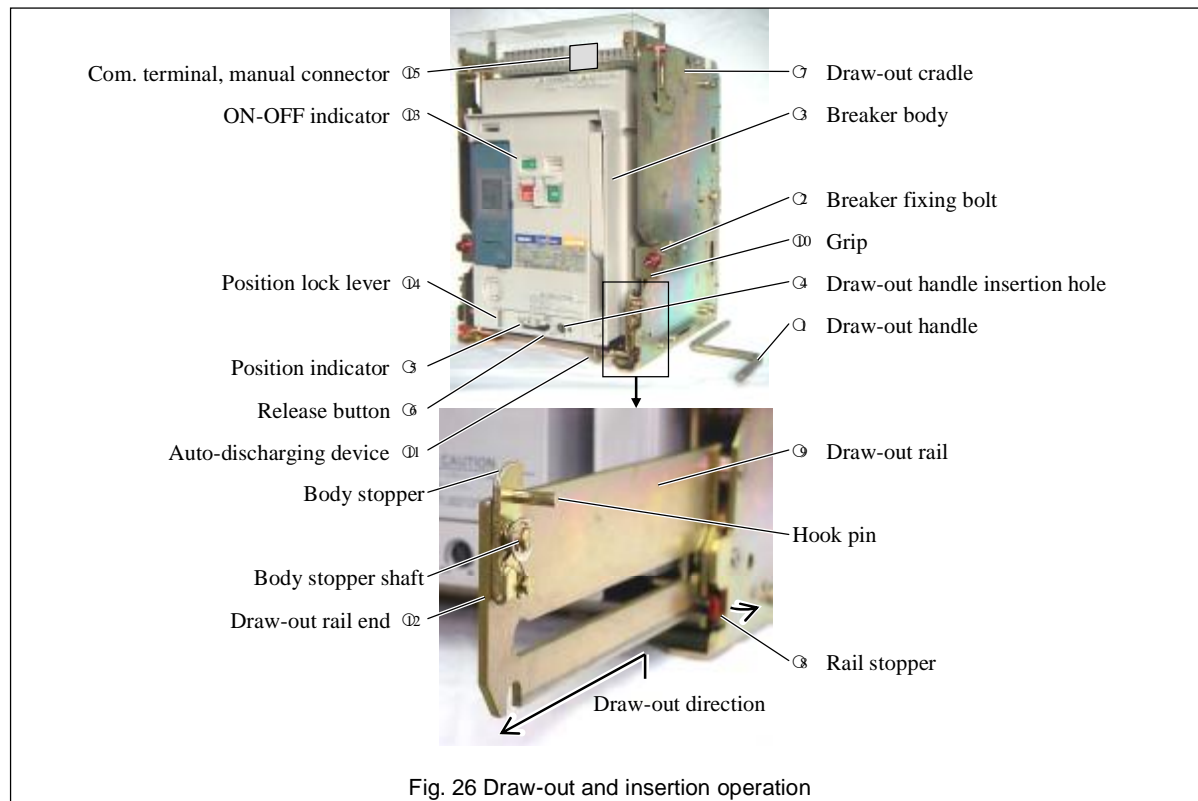

Fig. 26 Draw-out and insertion operation
- 1) Open the ACB. (If the ACB remains closed, the draw-out handle (Fig. 26 ㉑) cannot be inserted.)
- 2) Loosen the breaker fixing bolts (Fig. 26 ㉒), if used, to unlock the breaker body (Fig. 26 ㉓).
- 3) Unlock the position lock lever (Fig. 26 ㉔) if locked. See section 4-5.
- 4) Insert the draw-out handle into the draw-out handle insertion hole (Fig. 26 ㉕) and slowly turn counterclockwise until the position indicator (Fig. 26 ㉖) shows "TEST".
- 1) Open the ACB. (If the ACB remains closed, the draw-out handle (Fig. 26 ㉑) cannot be inserted).
- 2) Press the release button (Fig. 26 ㉒). The release button will be locked depressed.
- 3) Unlock the position lock lever (Fig. 26 ㉓) if locked. See section 4-5.
- 4) Insert the draw-out handle into the draw-out handle insertion hole (Fig. 26 ㉑) and slowly turn counterclockwise until the position indicator (Fig. 26 ㉒) shows “ISOLATED” and a freewheeling sound is heard. Turning the draw-out handle will unlock the release button.
- 1) Make sure the draw-out cradle (Fig. 26 ㉔) is secured with mounting screws.
- 2) Unlock the position lock lever (Fig. 26 ㉓) if locked. See section 4-5.
- 3) Push the rail stoppers (Fig. 26 ㉕) outward on both sides of the draw-out cradle to unlock the draw-out rail (Fig. 26 ㉖), and then uphold and pull out the rail until it stops. The draw-out rail will be locked again by the stoppers. (The breaker body cannot be drawn out unless the rail is locked).
- 4) Holding both the grips (Fig. 26 ㉗), draw out the breaker body until it stops.
- ⓘ If the ACB is equipped with the communication terminal block, pull out the hand connector (Fig. 26 ㉘) from the communication terminal block while drawing out the breaker body. Make sure the hand connector and control wire of the ACB are not snagged when drawing out the breaker body again.
- ⓘ If the ACB is equipped with an optional auto-discharging device (Fig. 26 ㉙), the closing springs of the ACB will be automatically discharged with a mechanical sound. This sound does not mean a malfunction.
- 5) Use an optional lifter or lifting plate to transfer the breaker body (Fig. 26 ㉚) to a safe place. Refer to section 2-1-2.
- 2) Push the rail stoppers (Fig. 26 ㉕) outward on both sides of the draw-out cradle to unlock the draw-out rail (Fig. 26 ㉖), and then uphold and pull out the rail until it stops. The draw-out rail will be locked again by the stoppers. (The breaker body (Fig. 26 ㉚) cannot be inserted unless the rail is locked).
- 4) Make sure the breaker fixing bolts (Fig. 26 ㉒), if fitted, are loosened and not arrest the breaker body.
- 5) Make sure the hand connector (Fig. 26 ㉓) of the communication terminal block, if fitted, is so positioned that it does not get caught between the breaker body and the draw-out cradle.
- 6) If the ACB has the breaker fixing bolts (Fig. 26 ㉒), make sure the bolts are loosened and, holding both the grips (Fig. 26 ㉔), firmly push the breaker body into the draw-out cradle.
- 1) If the ACB is equipped with the communication terminal block, plug the hand connector (Fig. 26 ㉓) into the communication terminal block while pushing the breaker body into the draw-out cradle. Make sure the hand connector and control wire of the ACB are not snagged when pushing the breaker body into the draw-out cradle.
- 7) Push the rail stoppers (Fig. 26 ㉘) outward on both sides of the draw-out cradle (Fig. 26 ㉔) to unlock the draw-out rail, and then push the rail ends to insert the rail until it stops. The draw-out rail will be locked again by the stoppers.
- 1) Make sure the ON-OFF indicator (Fig. 26 ㉚) shows “OFF”. (If the ACB remains closed, the draw-out handle (Fig. 26 ㉑) cannot be inserted).
- 2) Unlock the position lock lever (Fig. 26 ㉛) if locked. See section 4-5.
- 3) Insert the draw-out handle into the draw-out handle insertion hole (Fig. 26 ㉙) and slowly turn clockwise until the position indicator (Fig. 26 ㉜) shows “TEST”.
- 3) Press the release button (Fig. 26 ㉞). The release button will be locked depressed.
- 4) Insert the draw-out handle into the draw-out handle insertion hole (Fig. 26 ㉙) and turn clockwise until the position indicator (Fig. 26 ㉜) shows “CONN.” and the handle cannot be turned with its max. operating torque (14.7 N-m).
- 6) Tighten the breaker fixing bolts (Fig. 26 ㉒), if used, to lock the breaker body.